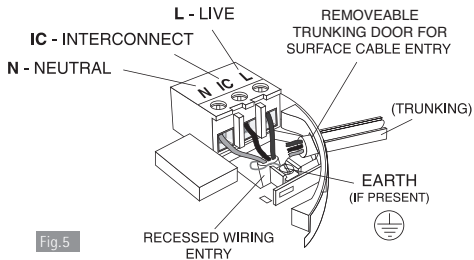

Fig.5
**IC: Interconnect** - see figures 5 and 6 and further information in Section 2.7.
**4.** If the mains wires are recessed, bring the wires through the rear hole in the mounting plate as shown in Figure 5.
(a) position the mounting plate so the cable trunking is as shown in Figure 5.